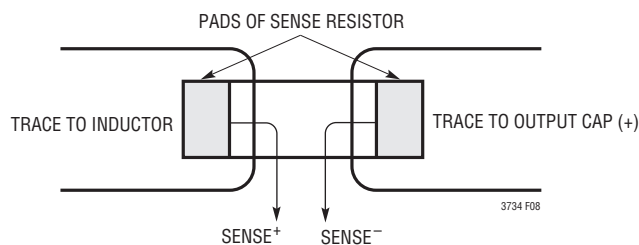

Figure 8. Proper Current Sense Connections
3) Are the  $SENSE^-$  and  $SENSE^+$  leads routed together with minimum PC trace spacing? The filter capacitors between  $SENSE^+$  and  $SENSE^-$  pin pairs should be as close as possible to the LTC3734. Ensure accurate current sensing with Kelvin connections at the current sense resistor. See Figure 8.